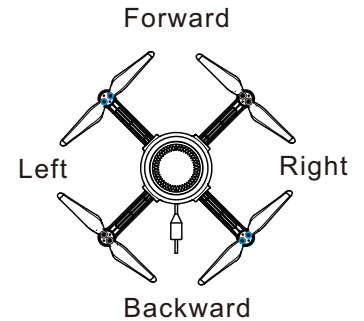

Figure 5-2: Illustration of drone orientation
- ① The orientation of the drone itself (as shown in Figure 5-2):The tail side with the cable plug of the drone is the tail side, and the nose side is the other side.
- ② When flying at night, you can determine the orientation of the drone by the colors of the lights on the underside of the wings. The side with the red lights illuminated is the front of the aircraft, while the side with the blue lights illuminated is the rear.